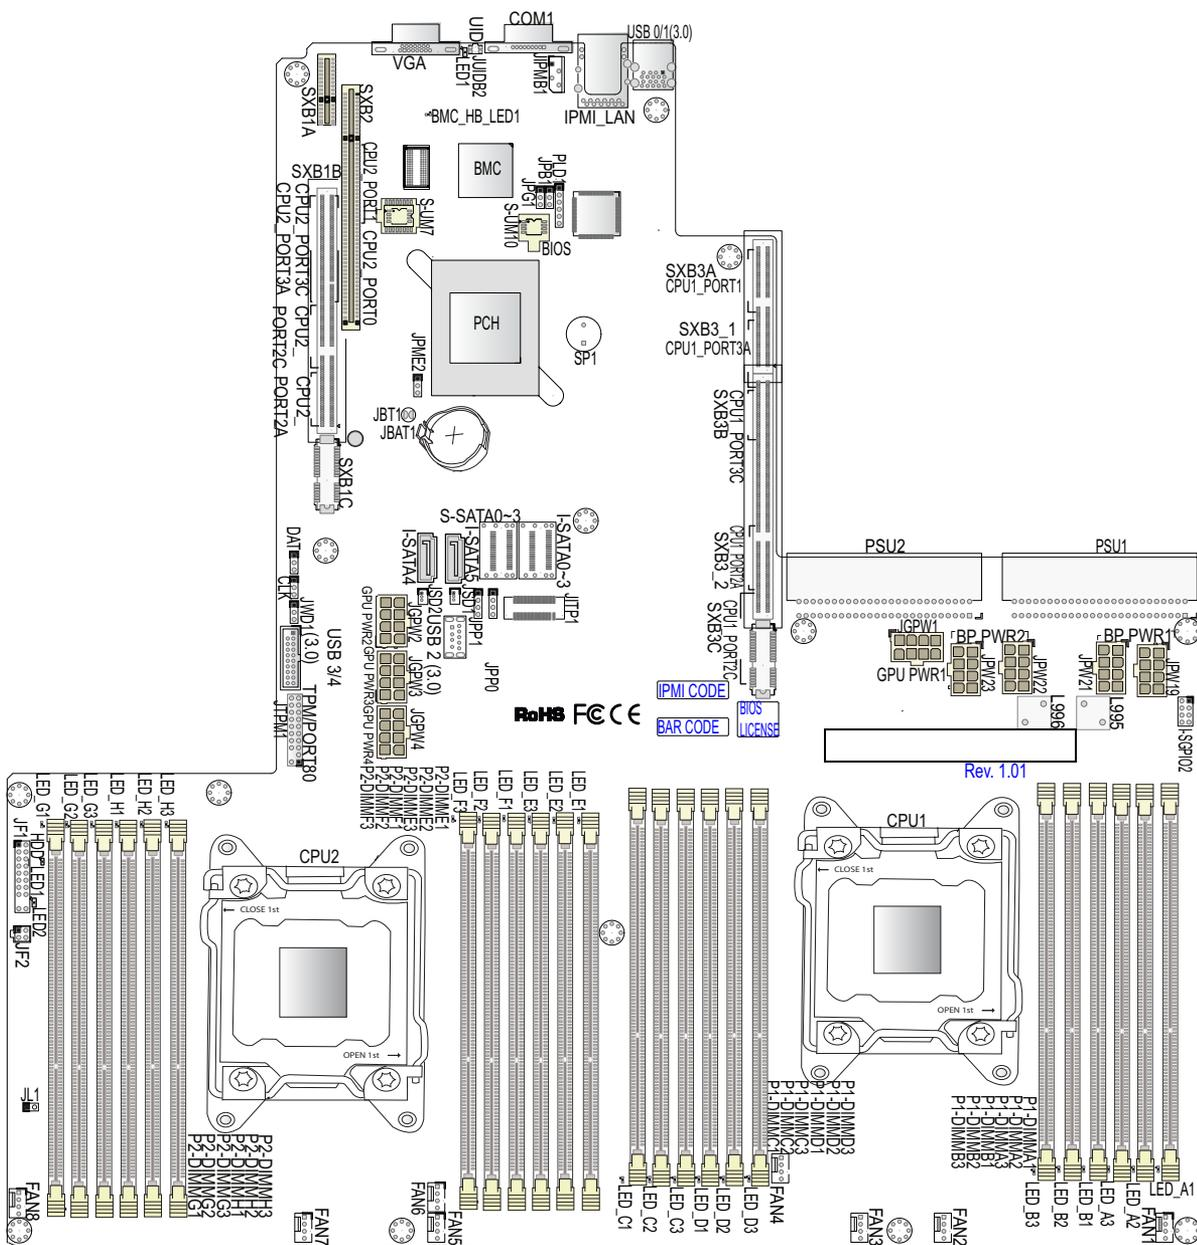

Figure 5-2 Node Board Layout Example (Not to Scale)
- See Figure 5-2 on page 36 for CPU locations on the serverboard - note that the drawing is not to scale.